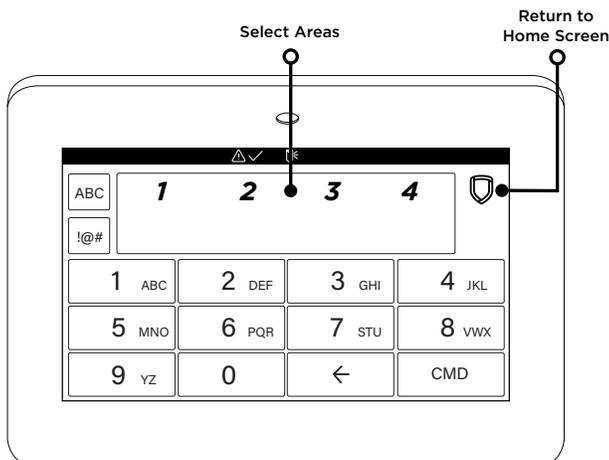

Figure 7: Number Pad
3. Identify the **Select Area** for the character and press that select area on the keypad. Press that select area again for the lowercase letter. See Figure 7.
Connect a motion sensing device or a mechanical switch to zone 3 to provide REX capability to the system. Zone 3 can be used to activate the strike relay and bypass or activate bypass only. For zone wiring details, refer to Figure 7.